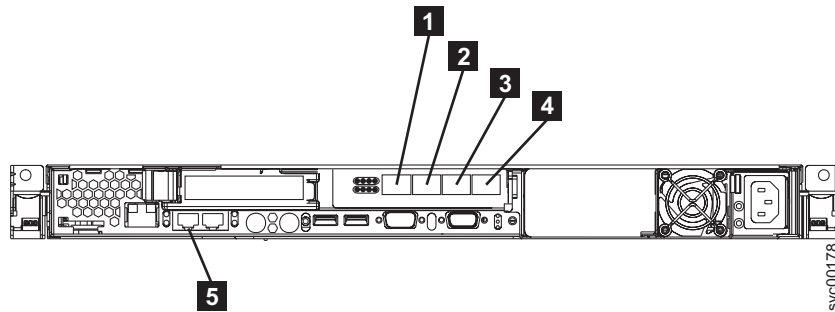
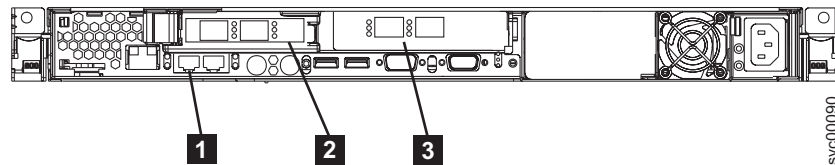

Figure 82. Connectors at the back of the SAN Volume Controller 2145-8F4
Figure 83. Connectors at the back of the SAN Volume Controller 2145-8F2
1. Connect the Ethernet cable to Ethernet port 1 **5** in Figure 82 on page 94 or Figure 83 on page 94.